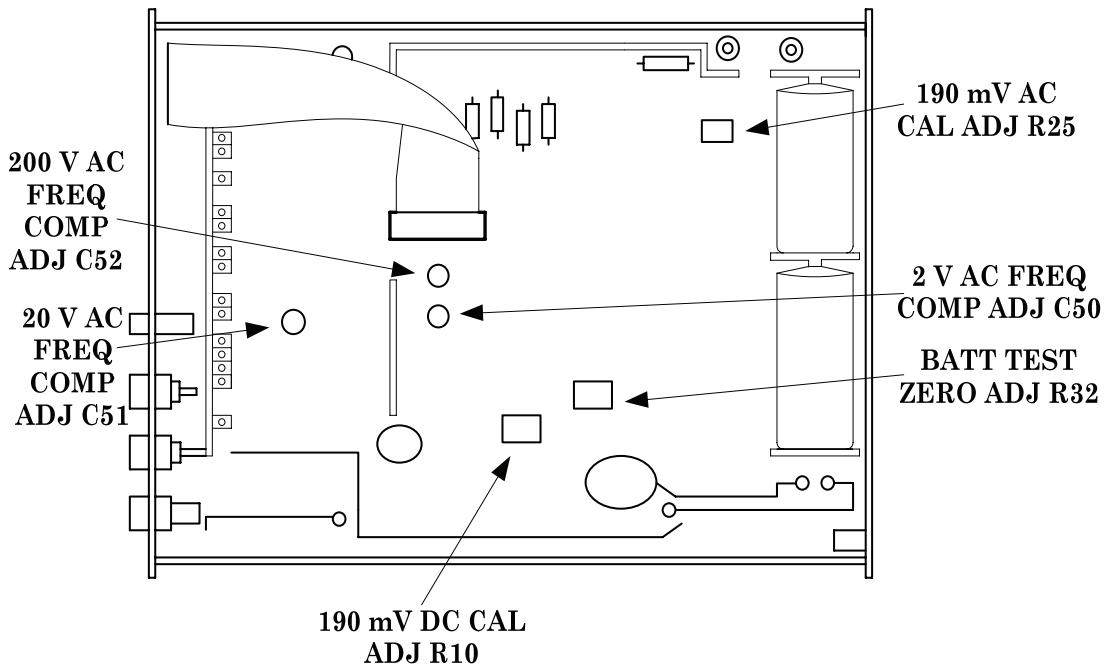

Figure 1. Test instrument - top view.
- (4) Set calibrator output to minimum.
**b. Adjustments.** Set calibrator for an output of 0.1900 V and adjust 190 mV DC CAL ADJ R10 (fig. 1) until TI indicates 190.0 (R).
- (1) Set calibrator for an output amplitude of 190.00 mV and an output frequency of 94 Hz.
- (2) Adjust 190 mV AC CAL ADJ R25 (fig. 1) until TI indicates 190.0 (R).
- (3) Set calibrator for an output amplitude of 1.9 V and an output frequency of 5 kHz.
- (4) Adjust 2 V AC FREQ COMP ADJ C50 (fig. 1) until TI indicates 1.900 (twist the Teflon pair tighter to increase capacitance or incrementally cut twisted pair to reduce capacitance (R)).
- (5) Set calibrator for an output amplitude of 19 V and an output frequency of 5 kHz.
- (6) Adjust 20 V AC FREQ COMP ADJ C51 (fig. 1) until TI indicates 19.00 (R).
- (7) Set calibrator for an output amplitude of 190 V and an output frequency of 5 kHz.
- (8) Adjust 200 V AC FREQ COMP ADJ C52 (fig. 1) (twist the Teflon pair tighter to increase capacitance or incrementally cut the twisted pair to reduce the capacitance) until TI indicates 190.0 (R).
- (1) Adjust BATT TEST ZERO ADJ R32 (fig. 1) for a 0.000 indication on TI display.
- (2) Install new batteries.